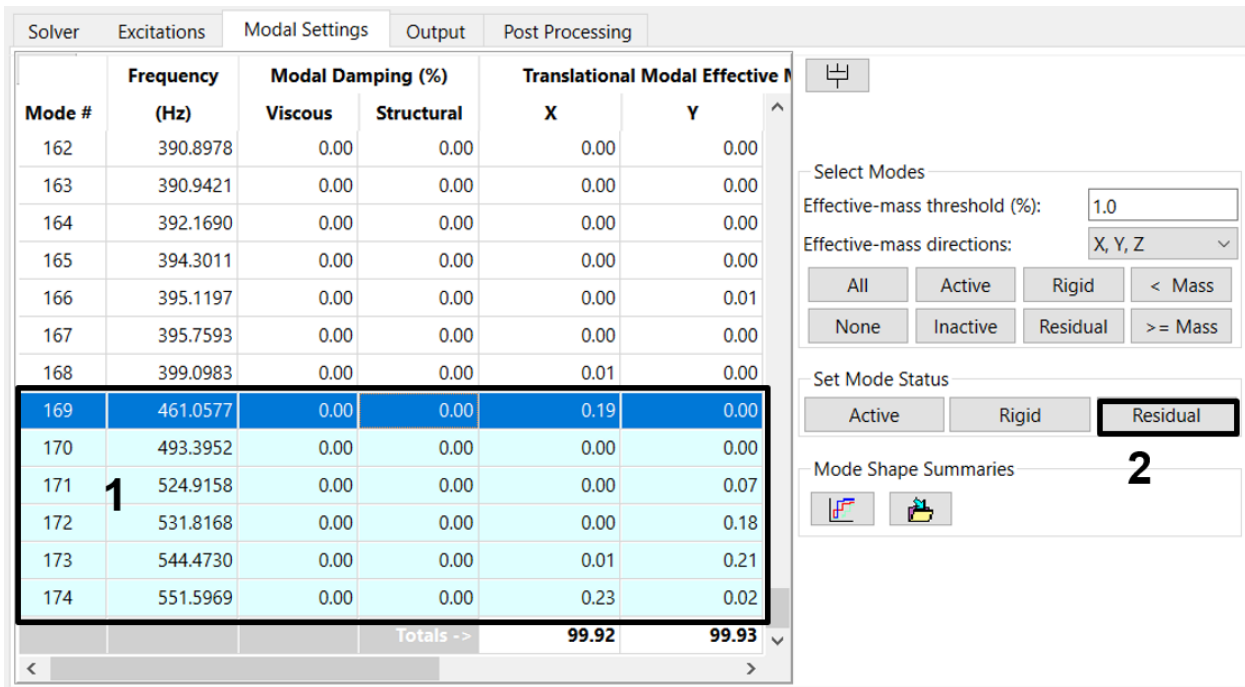

Figure 4-42. Select the modes above 400 Hz and set their status as residual vectors.
4. Since the Nastran solution requested residual vectors, make sure the modes above 400 Hz are marked appropriately. From the *Modal Settings* tab (Figure 4-42), select the modes above 400 Hz and then click on the **Residual** button. These modes will change to have a light-blue background, indicating that they are marked as residual vectors.